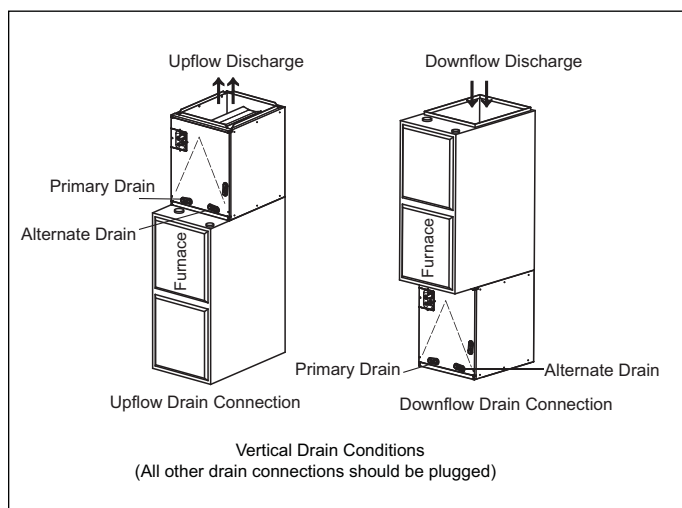

Figure 6
1. See Fig.6 & 7 for coil installation and drain connection.
i See Figure 6 & 7. In case that coil and furnace sizes are not matched, use proper size of sheet metal or other material to fill the gap and seal the gap to prevent air leak